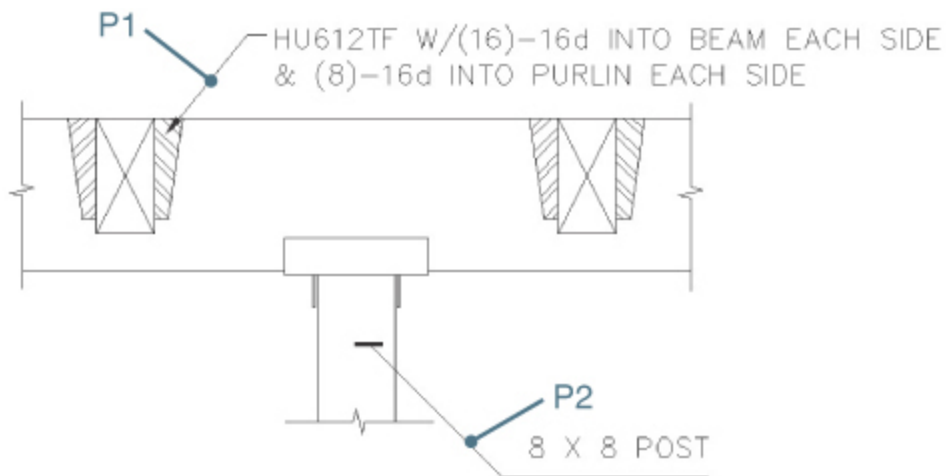

Figure 13-98
- 3 Select the leader shown at P1 in Figure 13-98. This dimension has a dimension style override for the arrowhead. AutoCAD prompts you to *Select destination object(s) or =*.
- 5 Select the leader shown at P2 in Figure 13-98. AutoCAD updates the leader to match the source object and prompts you to *Select destination object(s) or =*. Press **<Enter>** to end the **MATCHPROP** command.